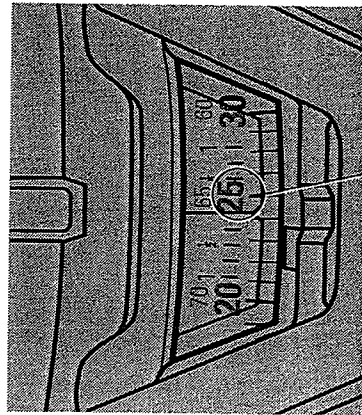

FIG. 16
3. To set the additional 1/4 degree, squeeze the miter arm lock and carefully move the arm to the RIGHT until the 1/4 degree vernier mark aligns with the CLOSEST degree mark on the miter scale. In our example, the closest degree mark on the miter scale happens to be 25 degrees. Figure 16 shows a setting of 24-1/4 degrees right miter.